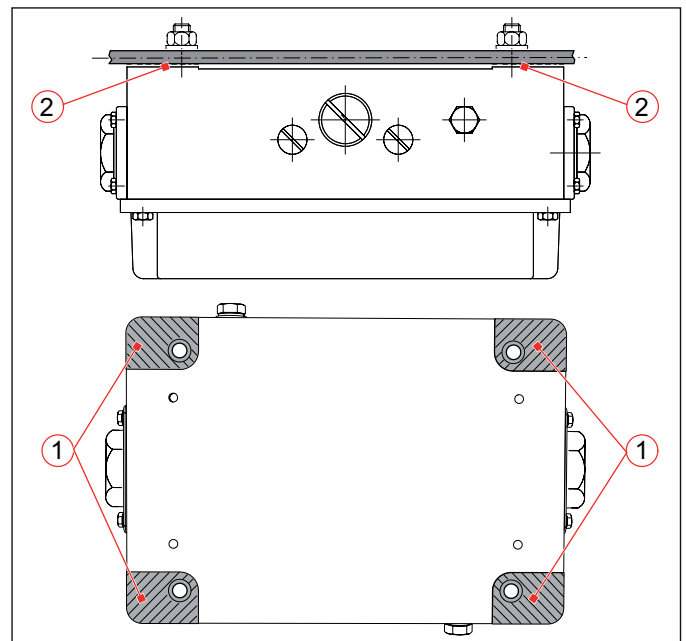

Fig. 28: Earthing surfaces on junction box (1) and mounting frame (2)
- ▶ Before the installation, make sure that the earthing surfaces on the junction box and on the mounting frame (**Fig. 28/1 and 2**) are free of varnish or any contamination.